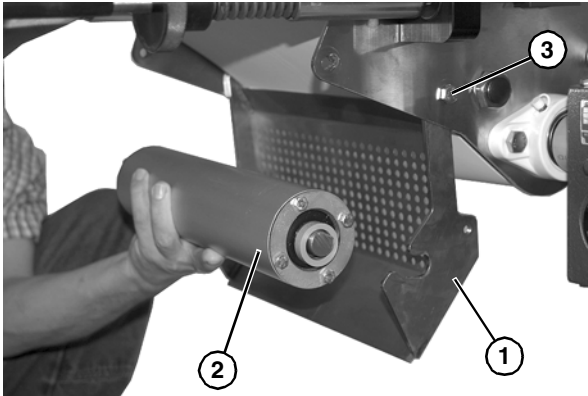

Figure 38
9. Swing down idler guard assembly (**Figure 38, item 1**). Remove idler pulley (**Figure 38, item 2**).
10. Remove screw (**Figure 38, item 3**) from each side of center drive and remove idler guard assembly (**Figure 38, item 1**).